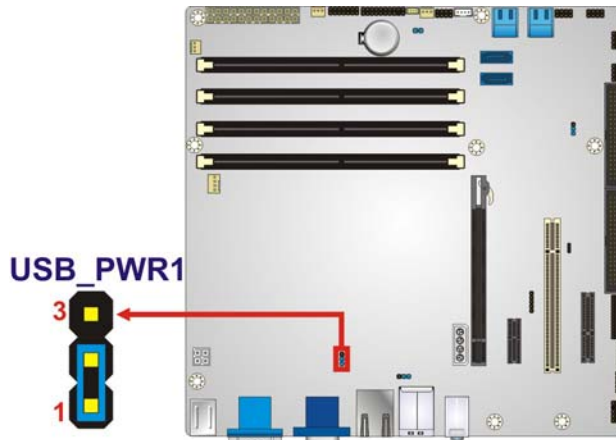

Figure 4-10: USB Power Select Jumper Location
- Jumper Location:** See Figure 4-10